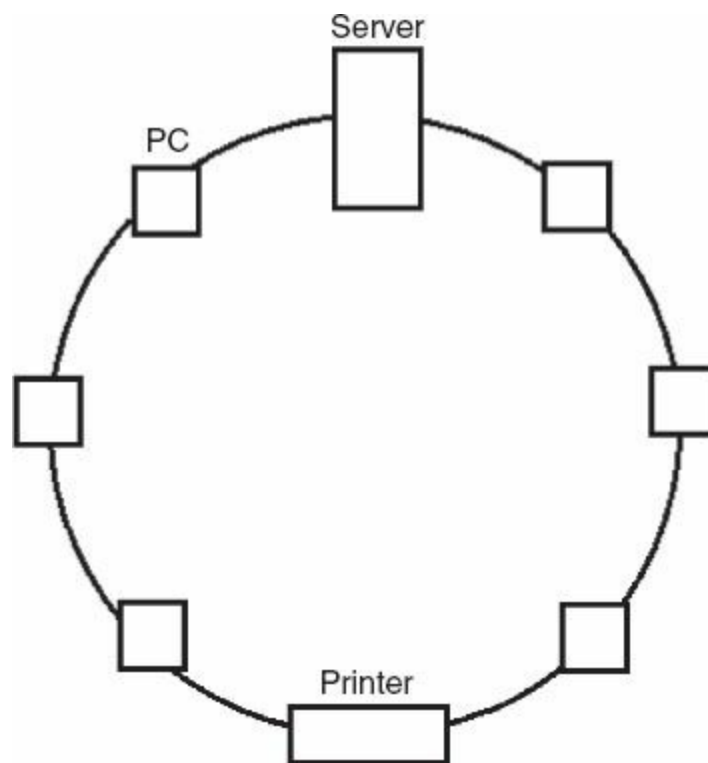

FIGURE 11.2 Ring topology.
- Ring topology: There is a source computer in the ring that checks the address of the received information and passes it to the next station in the ring shown in Fig. 11.2. The destination computer that has the matching address receives the information. The disadvantages of the ring topology are that if a computer in the ring breaks, the rest of the computers in the ring are affected, and that it is hard to add a new computer to the ring.